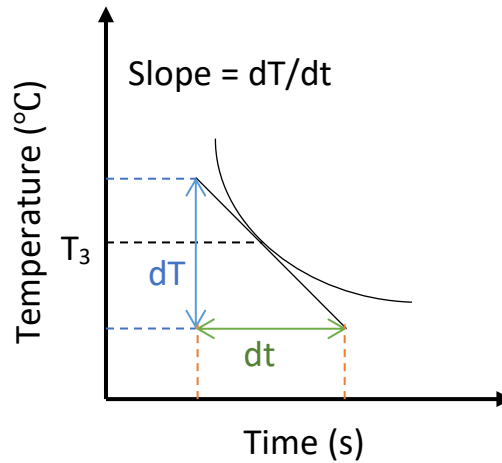

Fig. 2: Variation of temperature with time
Fig. 2 shows the variation of temperature with time, which gives the rate of fall of the temperature (slope of the cooling curve).
12. At this stage, with proper care, we remove heater and leave Disc 3 on the sample disc and start recording the thermocouple reading every 30 seconds time interval until it reaches $(T_{3f} - 5^\circ\text{C})$. This exercise should typically take 12-14 minutes. Plot a graph as shown in Fig 2. Draw a tangent at T_{3f} point to determine the cooling rate (dT/dt) at stabilized temperature T_{3f} . You will have to draw two more approximate tangents for your uncertainty analysis later.